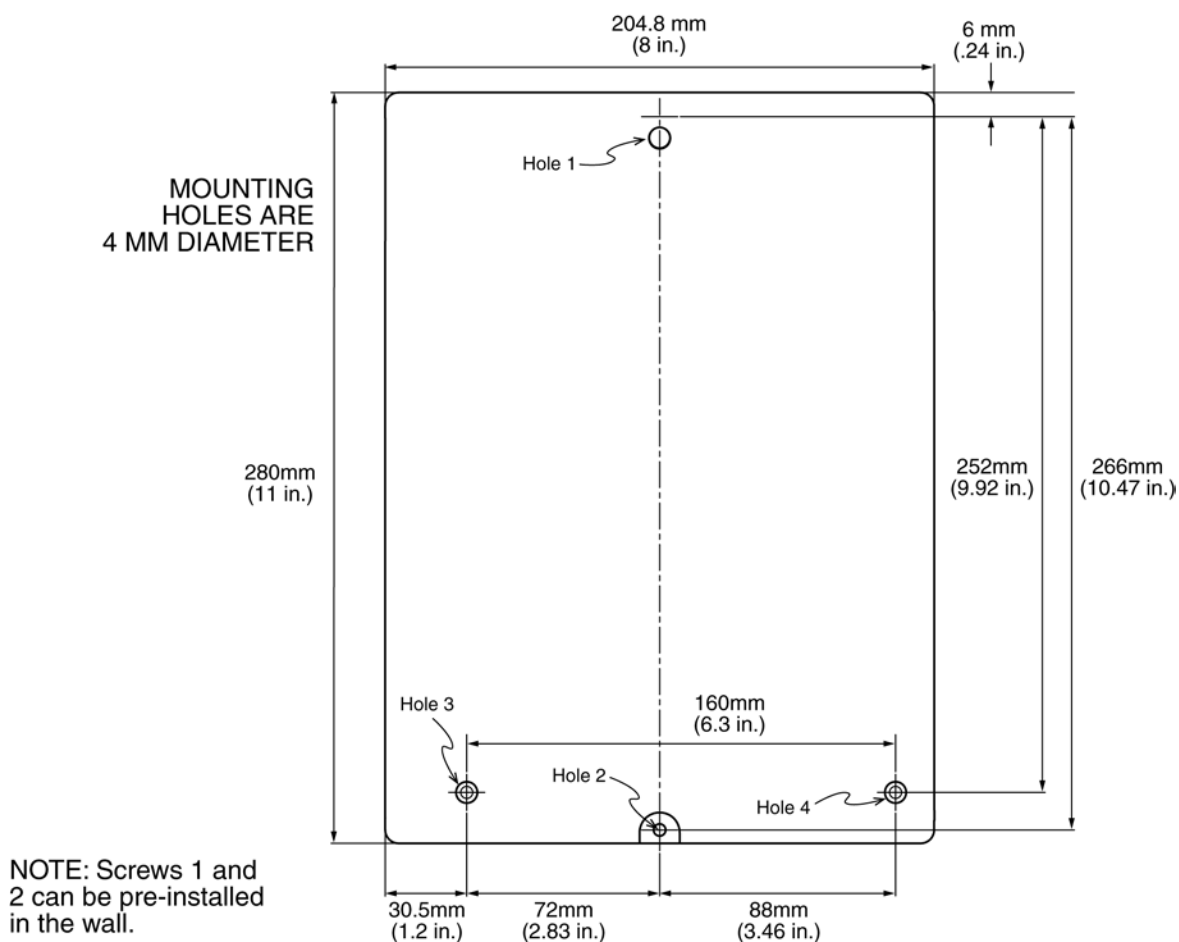

Figure 3-3: Mounting Hole Dimensions
5. Position the FAAST FLEX in place over the mounting screw in Hole 1 (Figure 3-3), and slide it down into place.